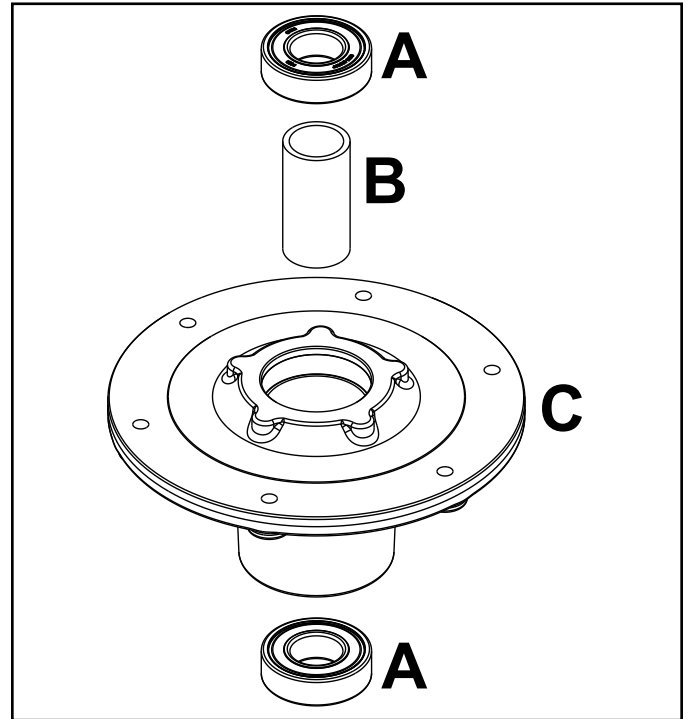

Fig. 098
5. Install spindle shaft (D) into spindle housing.
7. If necessary, install the deck onto the frame. (Fig. 098)